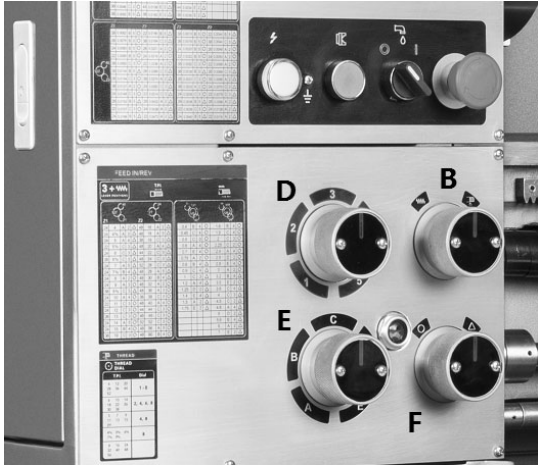

Figure 10-4
- Turn knob (B, Figure 10-4) counterclockwise so the arrow is pointing up to start the feed rod rotating.
- Set feed rate selectors (D/E/F, Figure 10-4) in proper position for correct feed rate of the thread pitch to be cut.
- Turn knob (B, Figure 10-4) clockwise so the arrow is pointing up to start the thread cutting.